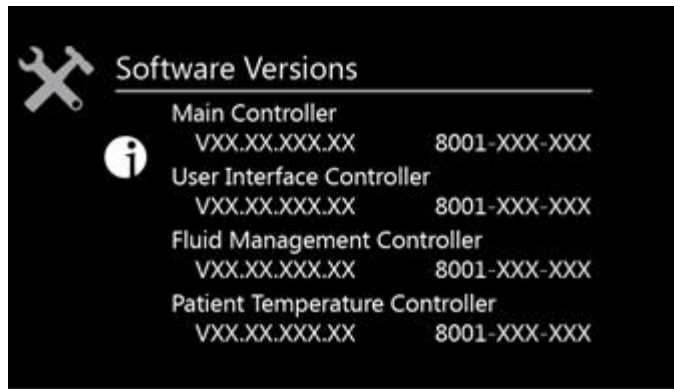

Figure 7 – Software versions, sample screen
2. Displays controller software versions. (Figure 7)